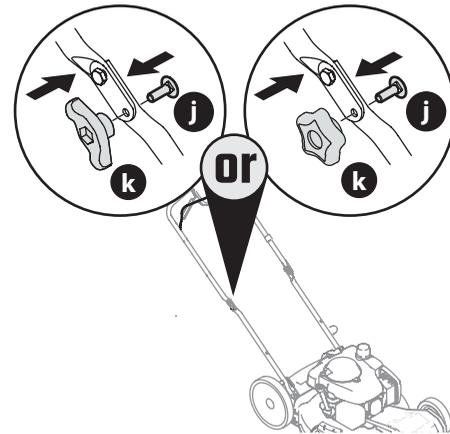

Figure 4
- Using two carriage bolts (j) and knobs or wing nuts (k), secure the upper handle to the lower handle tubes (Figure 4 Inset). Securely tighten knobs or wing nuts.